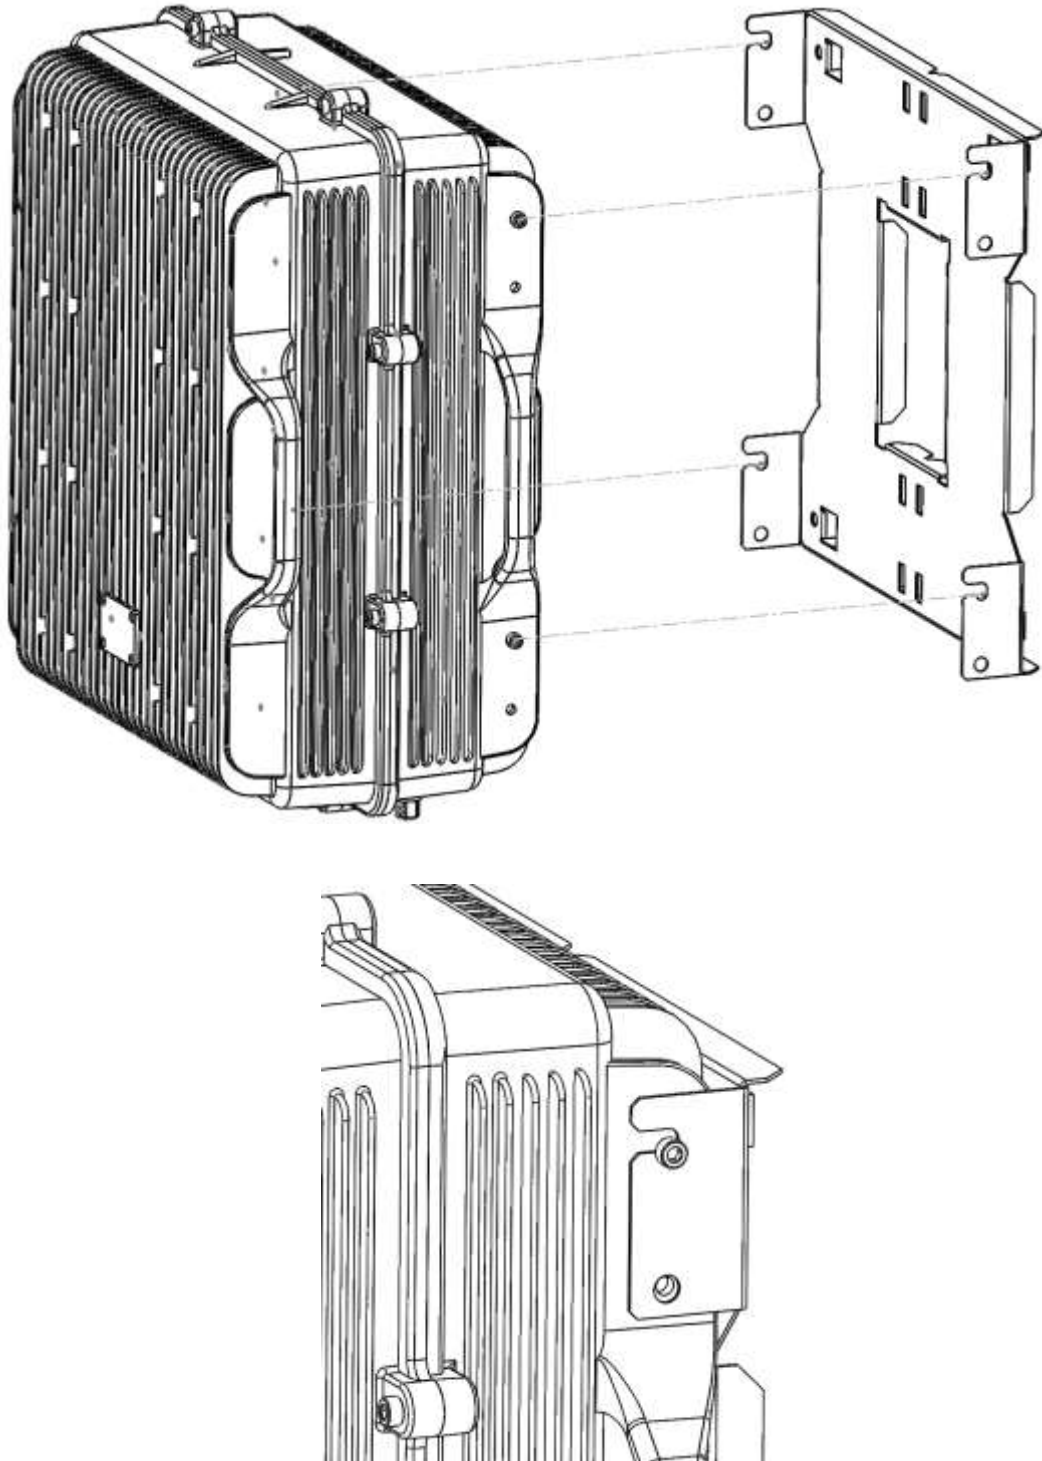

Figure 3
2. After attaching the bracket hang the Signal Booster as shown in Figure 3.